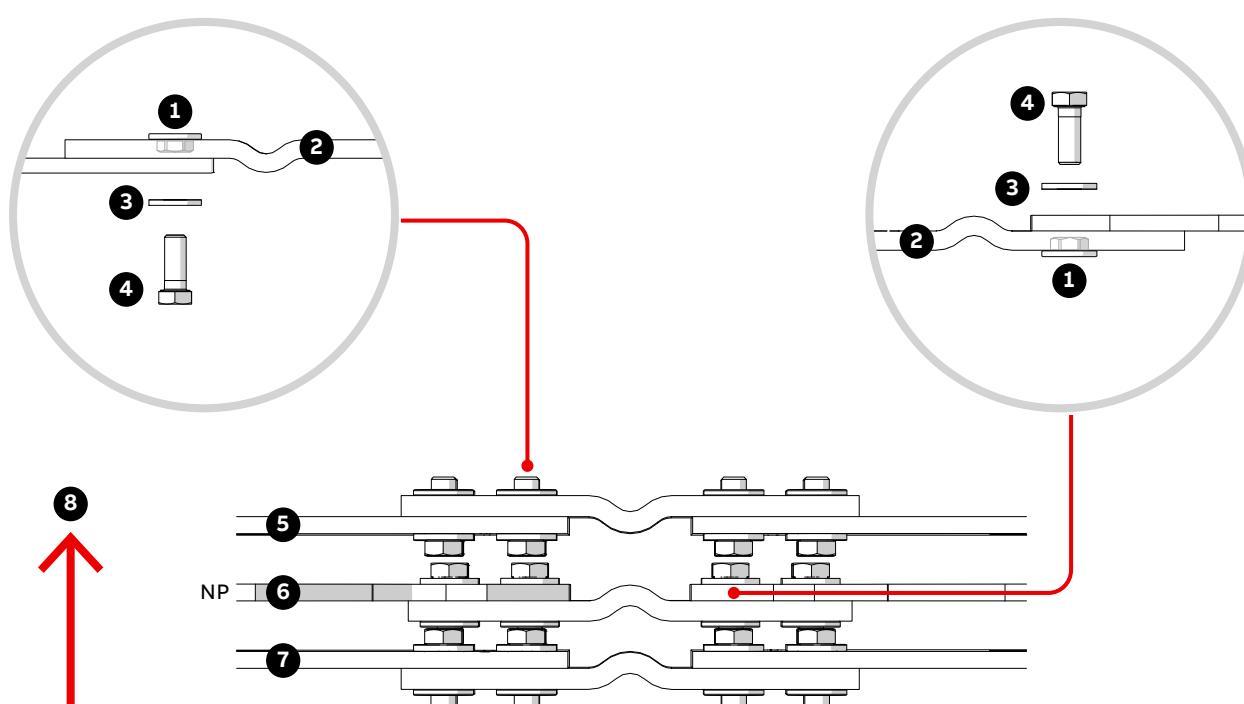

Figure 5–4 Top view of DC busbar configuration 1
- DC busbar configuration 3 (B in Fig. 5–5)
- DC busbar configuration 4 (C in Fig. 5–5)